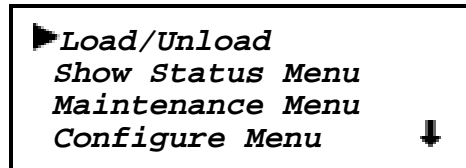
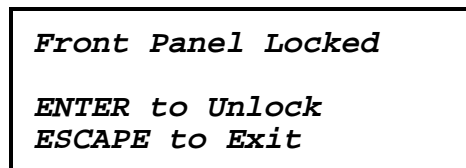

Figure 3-10 Main Menu
Figure 3-11 Panel Locked Screen
- 2) To return to the Main Menu from a submenu, press the **Escape** button repeatedly until the Main Menu appears. Pressing the **Escape** button while the Main Menu is displayed exits the Menu Mode and returns you to the Default Screen. The Default Screen is shown in Figure 3-6; the Main Menu is shown in Figure 3-10.
When the Default Screen appears on the screen, you can enter the Menu Mode by pressing the **Enter** button. The Main Menu shown in Figure 3-10 appears.
Note: If the Control Panel has been locked, the screen shown in Figure 3-11 appears instead of Figure 3-10. You must know the unlock code for the system before you can proceed.